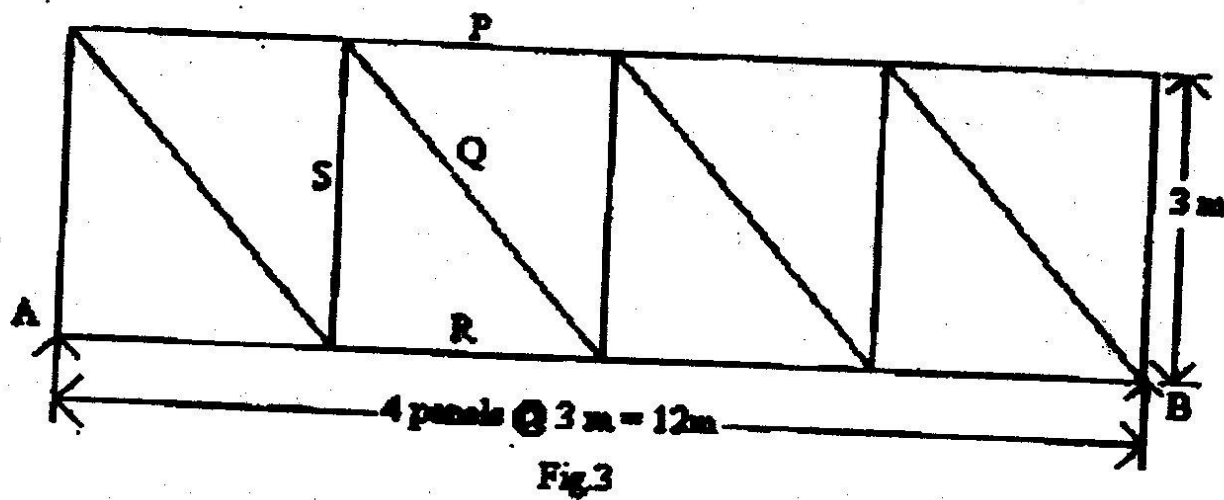

Fig.2
- (b) Using Muller Breslau principle, draw the influence line for bending moment at the mid point D of span AB of the continuous beam ABC shown in fig.2. Determine the influence line ordinates at suitable intervals and plot them. 8